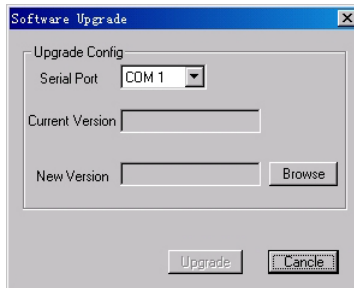

Figure 7-10 Software Upgrade
2. Input the correct password, and then click the OK button. The “Software Upgrade” dialog box will pop up as shown in Figure 7-10.
5. The version of the Upgrade File will be displayed in the figure 7-10.